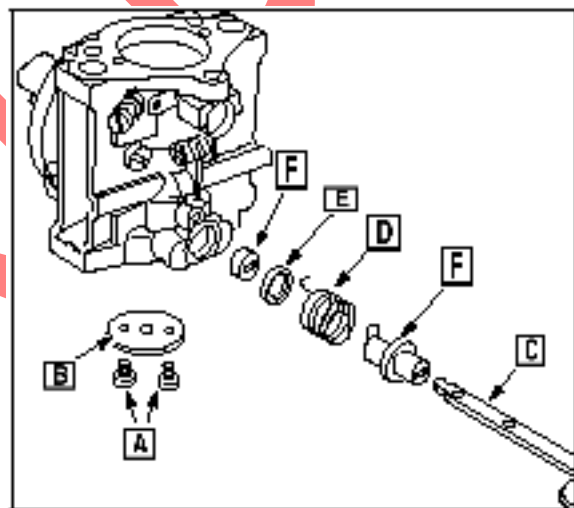

Fig. 78
Remove choke plate screws ([A] Fig.78).
(E), bushings (F) Fig. 78).